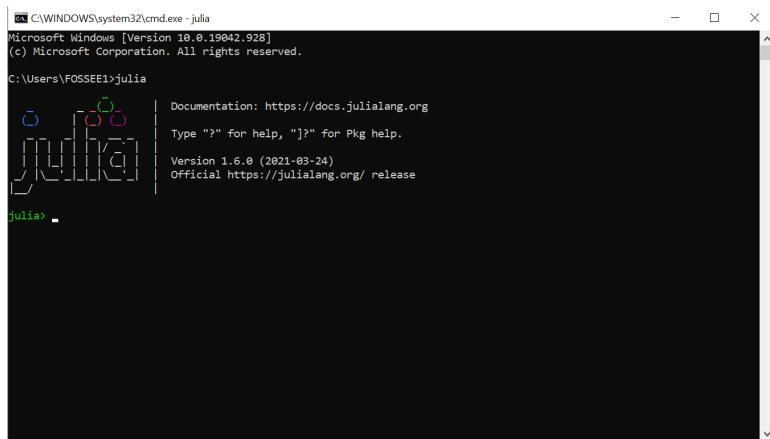

Figure 3.31: Windows command prompt to launch Julia REPL
2. In the Command Prompt, type `julia` and press Enter. It should launch Julia in an interactive session (also known as a read-eval-print loop or "REPL"), as shown in Fig. 3.31. When run in interactive mode, Julia displays a banner and prompts the user for input. By default, Julia REPL appears in Julian prompt. It is the default mode of operation; each new line initially starts with `julia>`, as shown in Fig. 3.31. It is here that you can enter Julia expressions. Hitting return or Enter after a complete expression has been entered will evaluate the entry and show the result of the last expression.
We can also check the status of this package to verify whether it has been installed successfully or not. For this, we need to get back to Julia REPL. Inside Pkg REPL, press backspace. The moment you press backspace, you get back to Julia REPL, as shown in Fig. 3.31. Now, type using Pkg and press Enter. This command will not generate any output. Now type `Pkg.status()` and press Enter. It should display the list of packages installed in Julia’s environment. Please make sure that `SerialPorts` is present in the list of packages being shown. To exit the interactive session, type `CTRL+D` or type `exit()`.